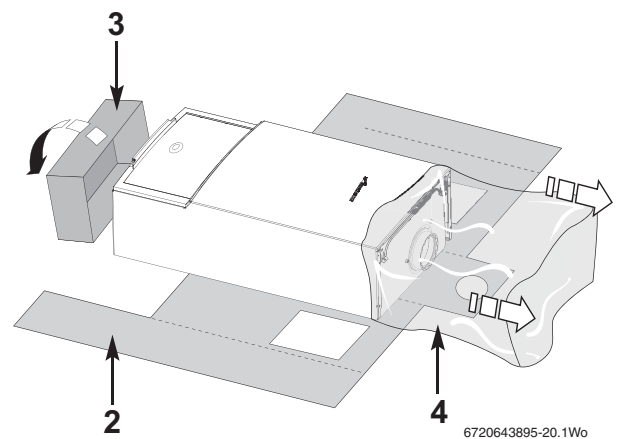
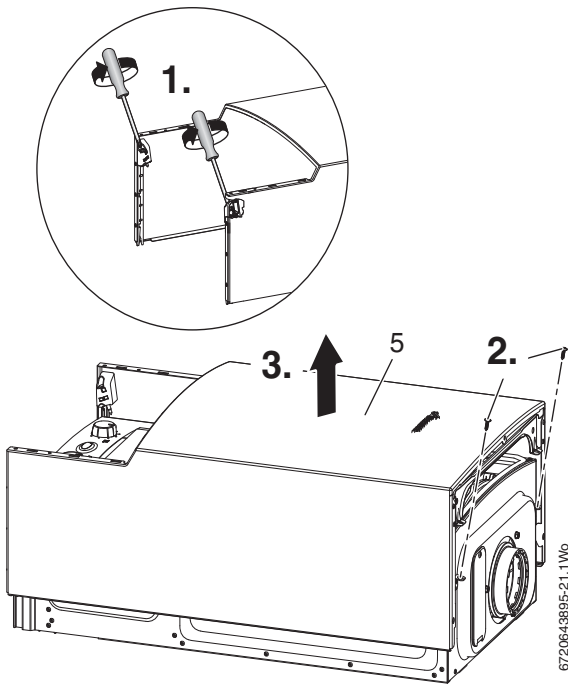

Fig. 29 Remove packaging
Fig. 30 Outer case screw removal
- ▶ Remove outer carton (1) and place safely away from the working area.
- ▶ With the outer packaging removed and the inner sleeve (2) still in place gently lay the boiler on its back.
- ▶ The boiler will lie at an angle to the floor to allow the boiler outer casing (5) to be removed.
- ▶ The inner sleeve (2) opens as shown in figure 29.
- ▶ Remove the protective wrapping (4).
2. Undo the two screws at the top (see fig. 30).
3. Remove the outer case (5).
- ▶ Remove any packaging within the boiler and the packaging base (3).